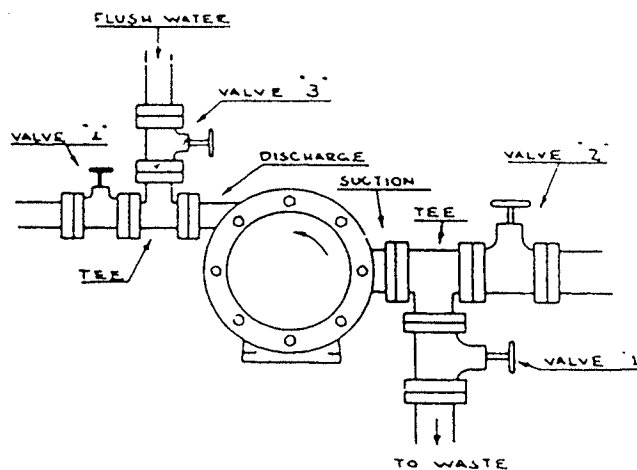

Figure 14
5. On units handling corrosives, the piping can be arranged so that corrosives can be flushed from pump prior to opening unit for service. See Fig. 14. During operation, valves "1" and "3" would be closed, "2" and "4" open. Prior to dismantling, close valves "2" and "4", open "1" and "3". Introducing water at valve "3" will allow water to flush pump and drain at valve "1".